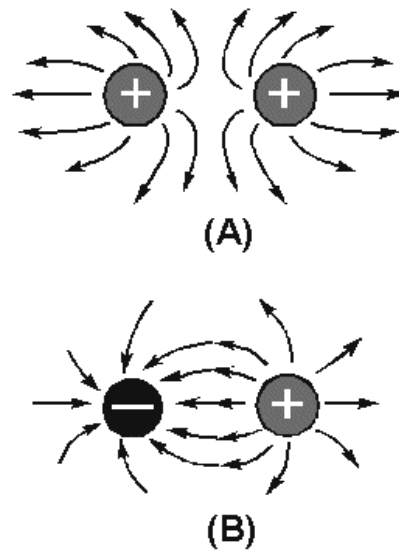

Figure 1-7.—Electrostatic lines of force.
The field about a charged body is generally represented by lines which are referred to as ELECTROSTATIC LINES OF FORCE. These lines are imaginary and are used merely to represent the direction and strength of the field. To avoid confusion, the lines of force exerted by a positive charge are always shown leaving the charge, and for a negative charge they are shown entering. Figure 1-7 illustrates the use of lines to represent the field about charged bodies.
Figure 1-7(A) represents the repulsion of like-charged bodies and their associated fields. Part (B) represents the attraction of unlike-charged bodies and their associated fields.